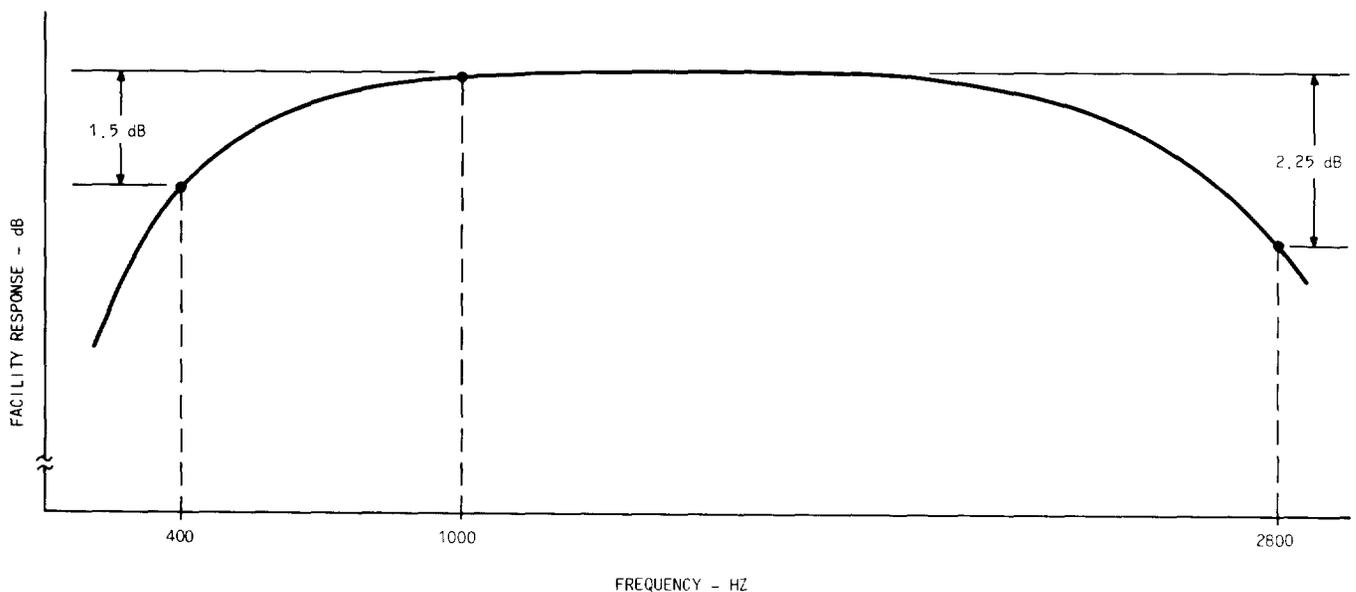

Fig. 22—Objective for Equalized Response on a 4-Wire Circuit with 2-Wire Extension
6.02 Figure 22 shows the desired equalized facility frequency response. Unlike an all 4-wire facility (no 2-wire extension) which strives for a flat response across the band, the response objective here has 1.5 dB roll-off at 400 Hz and 2.25 dB roll-off at 2800 Hz. Of the two objectives, the 400
Note: This is an *objective*—not a requirement. Actual response limits are determined by the requirements of the overall circuit. By adjusting each facility of a circuit to the loss shape of Fig. 22, the overall circuit will be set for optimum stability while still meeting its end-to-end loss objectives.